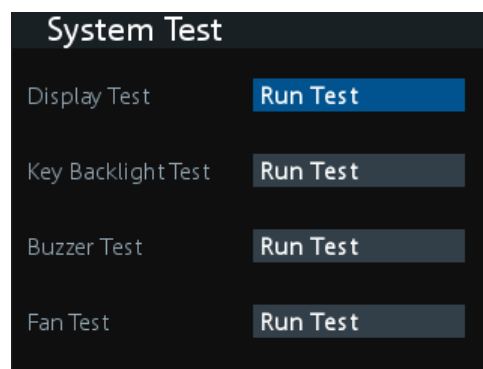

Figure 7-5: System test dialog
- ▶ Select [Menu] > "Utilities" > "System Test" to perform system test. The R&S NGA100 displays the "System Test" dialog. See Figure 7-5.